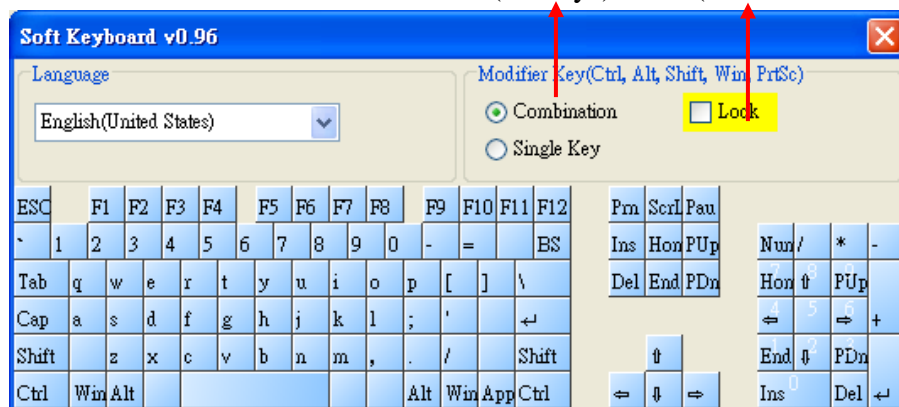

Figure B-5
- Click this button to use the Soft Keyboard for console redirection as shown in Figure B-5.